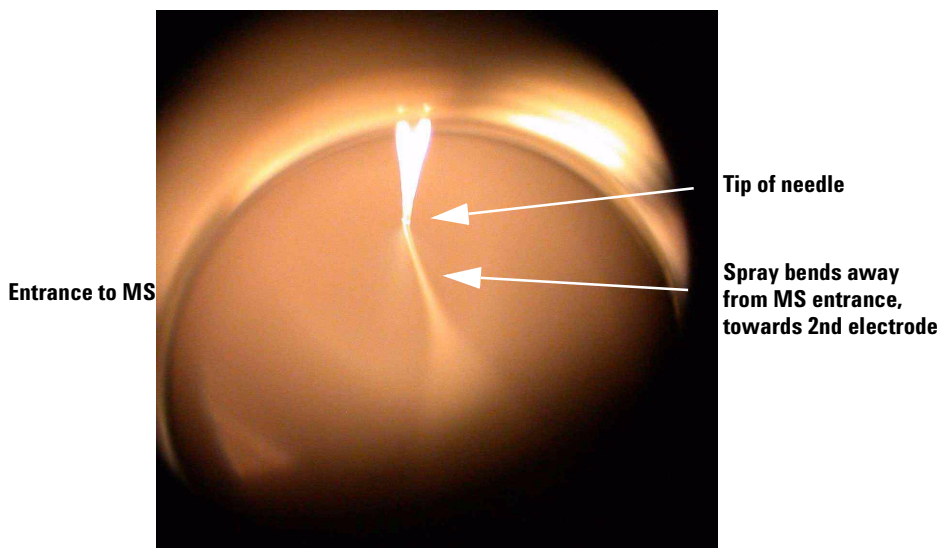

Figure 5 Bending of spray away from entrance to MS
- d Gradually increase the capillary voltage to achieve good spray. View the spray through the ocular and, if necessary, slightly rotate the needle/column assembly so the spray bends away from the entrance to the MS. See Figure 5. This will reduce droplet noise.